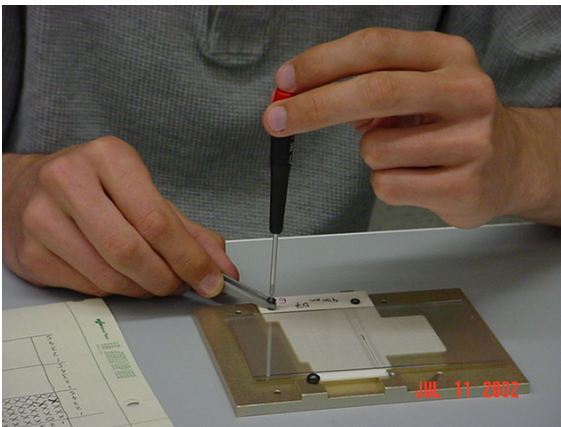

Figure 3. Screw pick-up with plastic tweezers.
- Particular attention should be paid to the process of placing and removing a screw. Figure 3 displays the use of plastic tweezers holding the screw just before the removal. The tweezers should be at the proper angle, so that the holding hand does not touch the module. The screw may cling to the screwdriver sometimes; therefore we recommend moving the screw/driver pair together to a safe place away from the module before disengagement. **No object should be moved over the surface of the module!** Flying screws are almost as dangerous as flying screwdrivers.